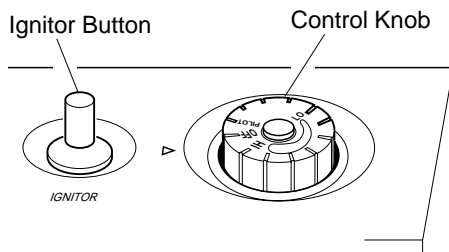

Figure 17 - Control Knob In The OFF Position
4. Wait five (5) minutes to clear out any gas. Then smell for gas, including near the floor. If you smell gas, STOP! Follow "B" in the safety information, page 11, column 3. If you don't smell gas, go to the next step.
5. Turn control knob counterclockwise to the PILOT position. Press in control knob for five (5) seconds (see Figure 17).